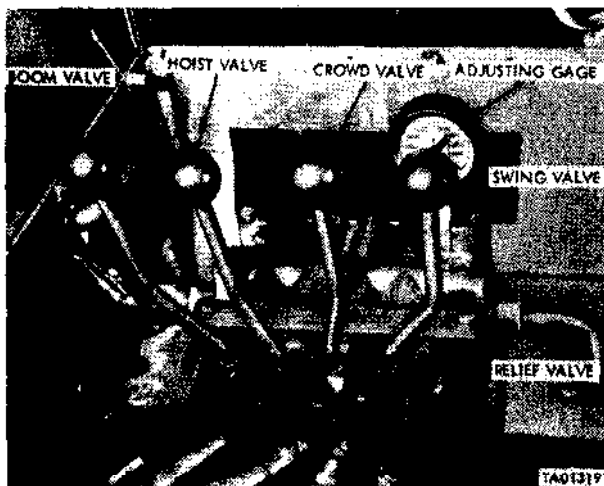

Figure 544. Control valve bank assembly, shown with cover removed and adjusting pressure gage installed.
i. *Control Valve Bank Assembly.* The control valve bank assembly (fig. 544) is bolted to a shelf at the front of the operator's station. This assembly consists of four spring-centered valve spool sections with an inlet body at one end and an outlet body with an adjustable relief valve at the other end. Each spring-centered valve spool section is actuated by a control lever. Hydraulic oil flows from the pressure inlet of one section to the hydraulic cylinder of motor to be operated, and returns to the section through the discharge port to the pressure inlet of the next section.